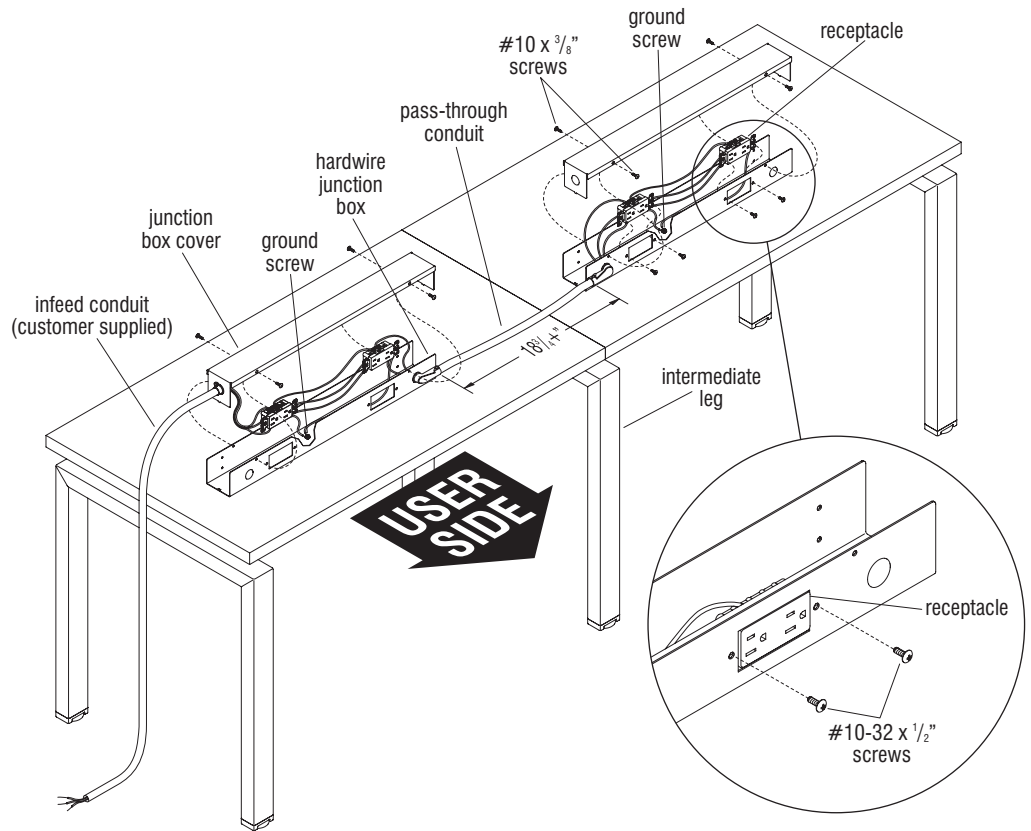

Figure 1
4. If privacy screen brackets have been installed from page 9, Figures 1, 2, & 3, or divider screens are required, proceed to "Privacy & Divider Screen Overview" instructions on page 34. If no privacy screens and/or divider screens are required, and if modesty panels are to be installed at this time, go now to modesty panel section beginning on page 39. If a perpendicular support frame is required, go now to page 42 to start support frame installation.
1. Place hardwire junction boxes onto the worksurfaces and stage boxes in the order and location specified by the space-planning layout. Remove the junction box covers and set aside (Figure 1).
3. Different receptacles (customer supplied) will wire differently. Depending on the type of receptacle used, determine if the individual wires will attach to the receptacle before or after they are mounted to the specified locations in the hardwire boxes. To mount receptacles to the box, position receptacles inside the box with the receptacle face through the opening, then secure the box to the receptacle using two #10-32 x $\frac{1}{2}$ " screws (see inset detail, Figure 1).
4. Complete the wiring of receptacles, then secure the covers to the hardwire junction boxes using #10 x $\frac{3}{8}$ " screws at all required locations per box as illustrated (Figure 1).